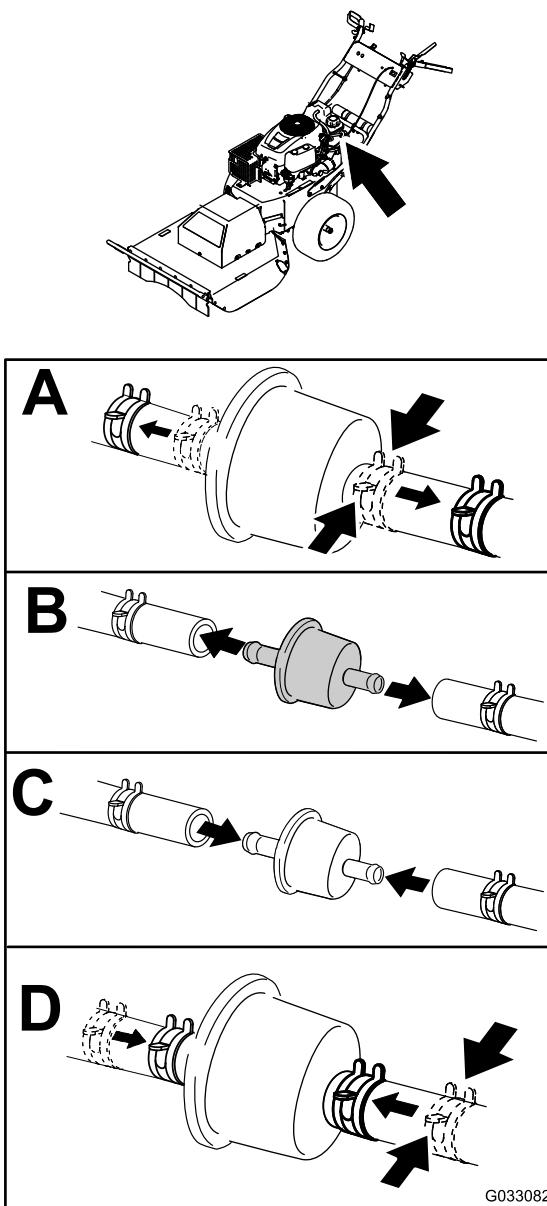

Figure 28
3. Replace the in-line filter (Figure 28).